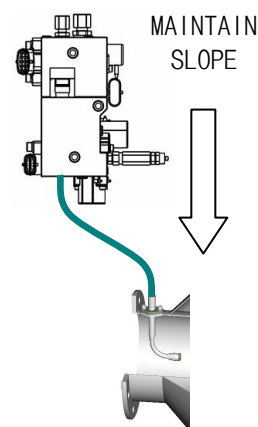

Figure 12 Nozzle mounting
When replacing the nozzle, start by releasing the air pressure and make sure that the system is powerless. The washers, screws, sealing and o-ring (pos 3-5 above) can be reused if the condition of the components are acceptable. The gasket shall always be replaced. When installing the new nozzle, check that that the nozzles tip is oriented in the same direction as the exhaust flow, see figure 12 above.